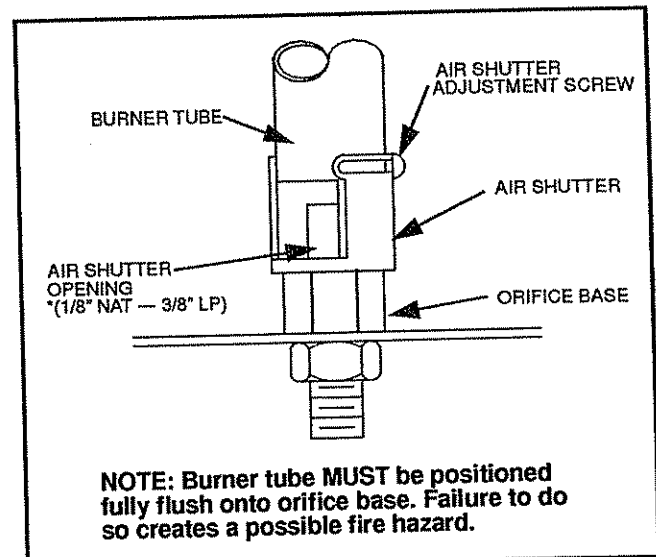

Fig. 40. Burner positioning on orifice.
4). **IMPORTANT!** If you are installing burner tube into an LP fueled appliance, you must adjust air shutter on burner tube to an opening of 3/8". (See Fig. 40.)
5). If you have a plastic cap over the orifice remove it before installing the burner. Lift and set burner in place making sure burner tube with air shutter is resting on orifice. (See Fig. 40.)